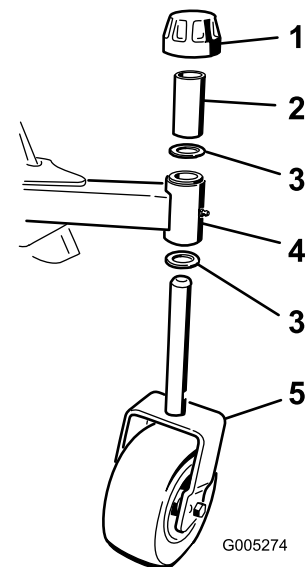

Figure 3
1. Remove the tensioning cap from the castor wheel spindle shaft (Figure 3). Slide the spacer and one thrust washer off the spindle shaft. Leave one thrust washer on the shaft.
2. Push the castor spindle up through the bushings in the blower frame, insert another thrust washer onto the shaft, slide the spacer onto the spindle shaft and install the tensioning cap to secure the assembly (Figure 3).